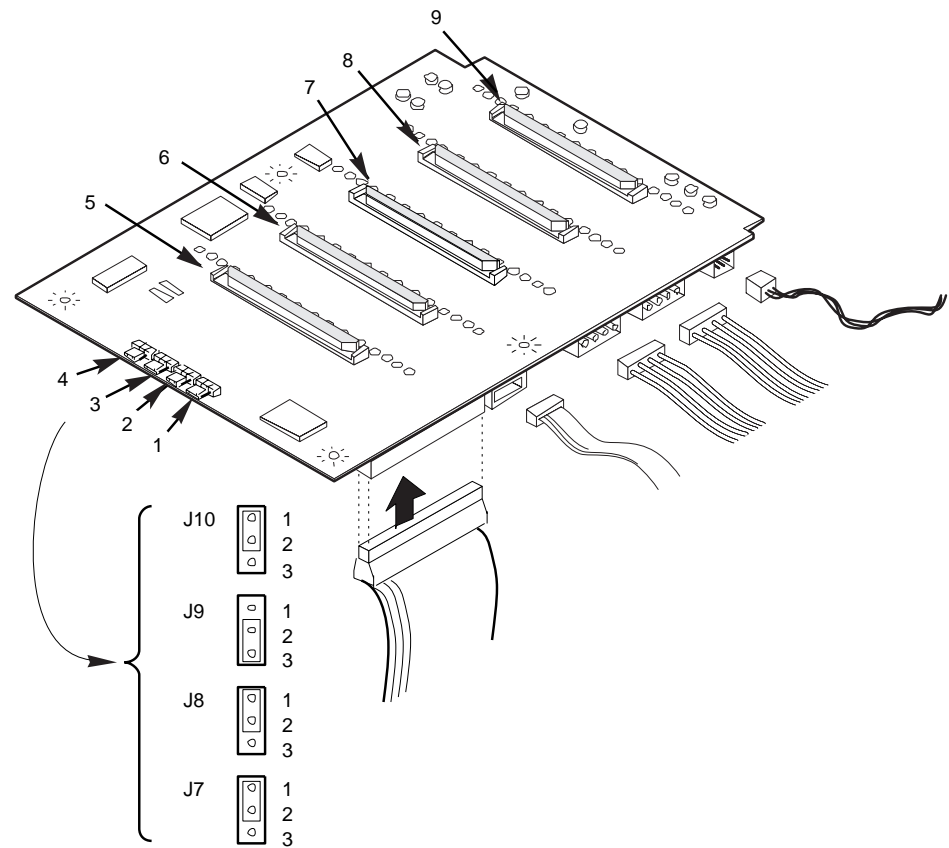

Figure 6-2. SCSI Backplane
See Figure 6-2.
2. The jumpers are parallel with the hot-docking backplane surface, shown in Figure 6-2. To remove a jumper, use a jumper removal tool.